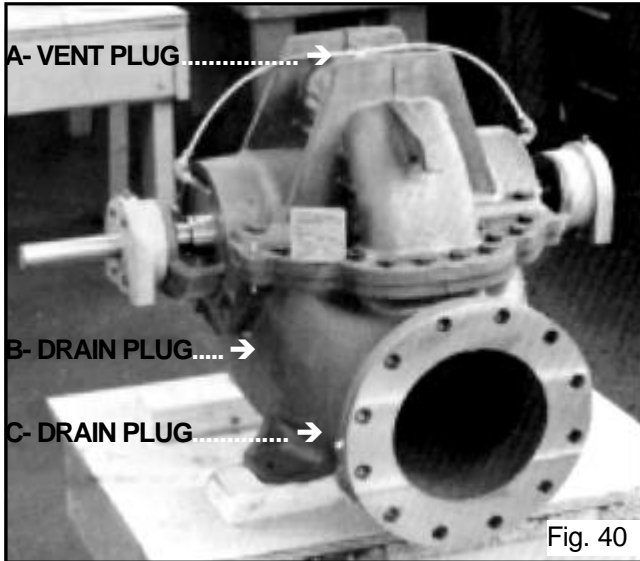

Fig. 40
1. Drain the pump by opening vent plug (A, Fig. 40) and remove drain plugs (B and C) on the suction and discharge nozzles.